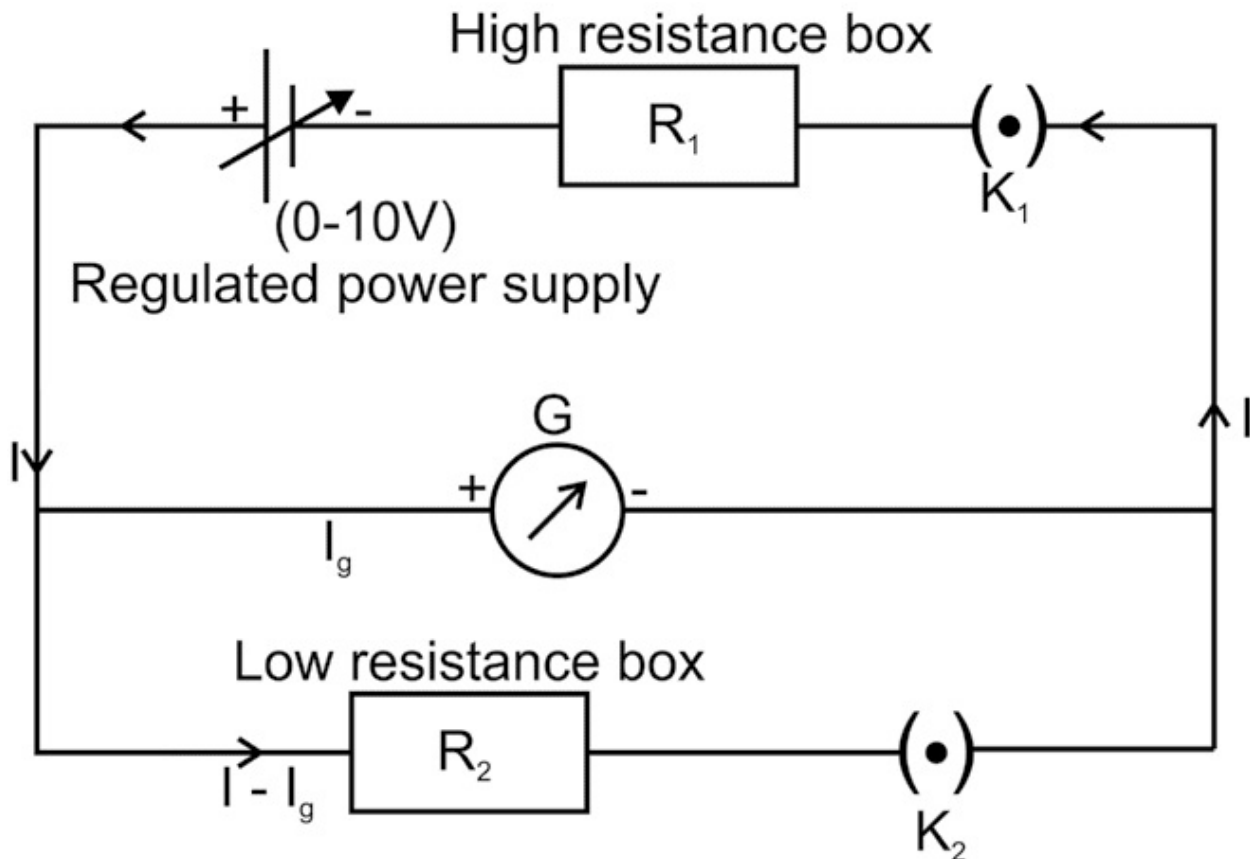

Fig P11.1
1. Make circuit as per the circuit diagram in Fig. P11.1